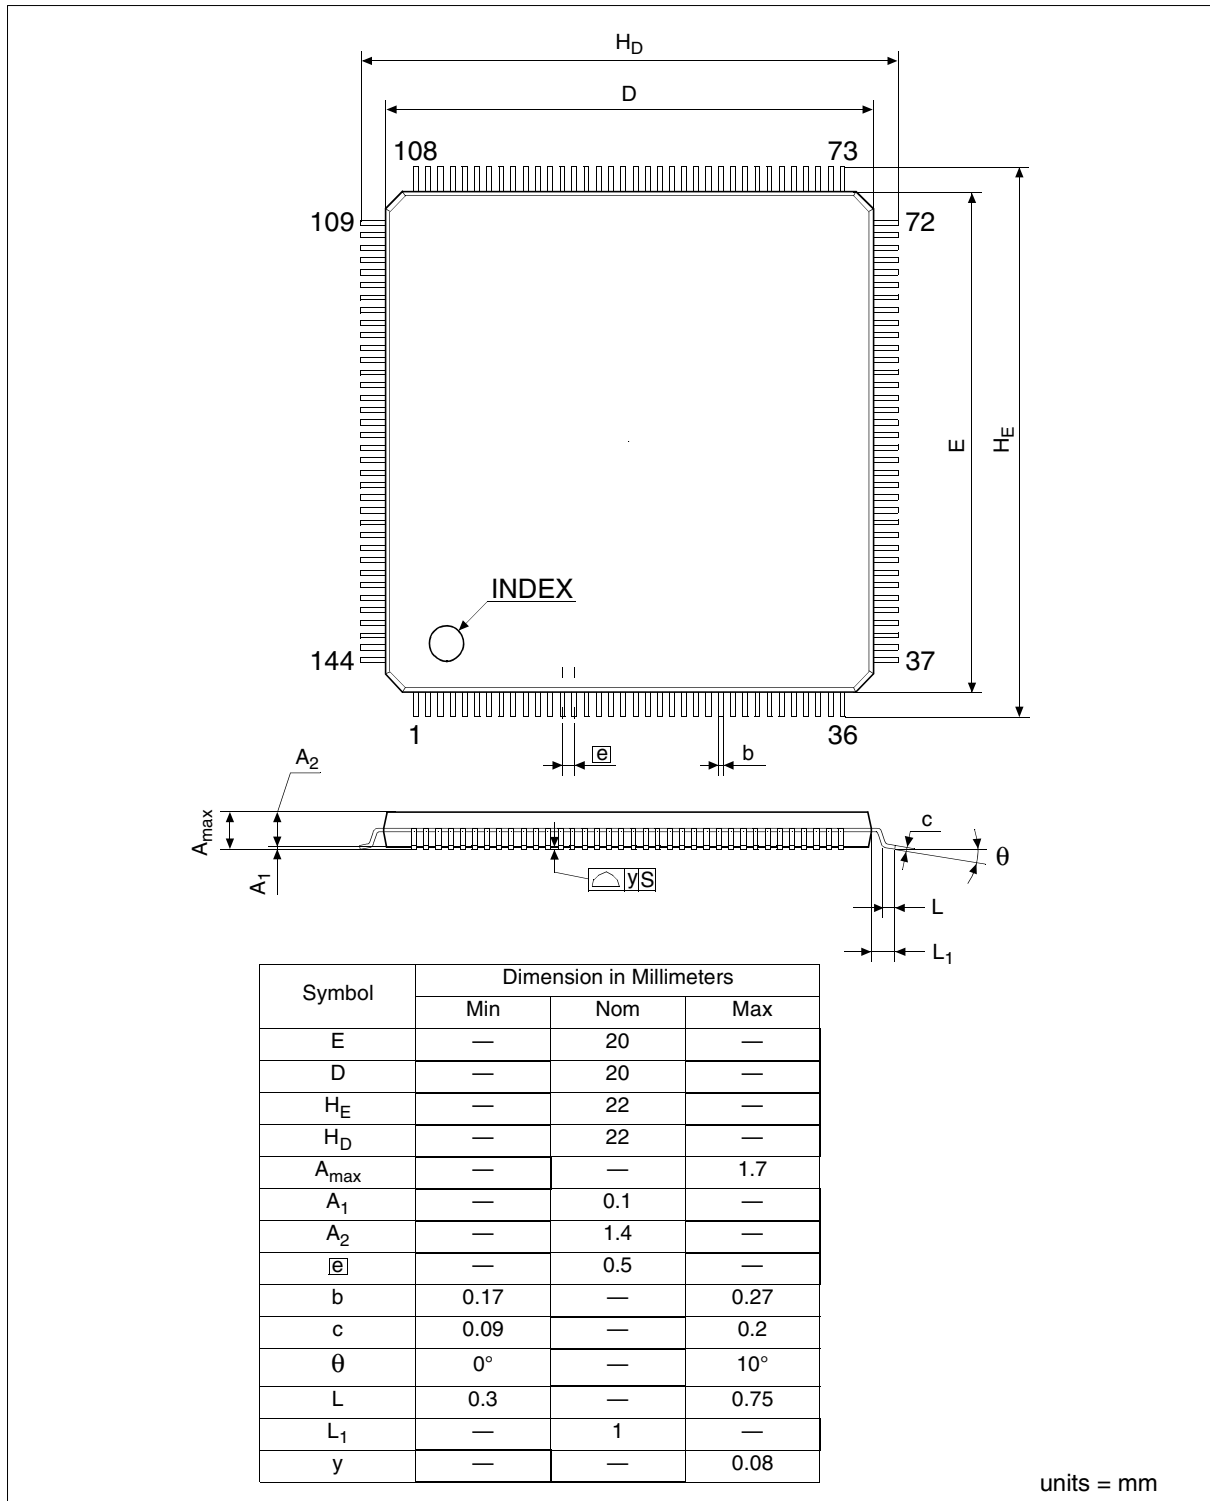

Figure 23-1: SID13743 QFP20 144-pin Package
- section 23 - in Figure 23-1, change Side View ball height to 0.23mm